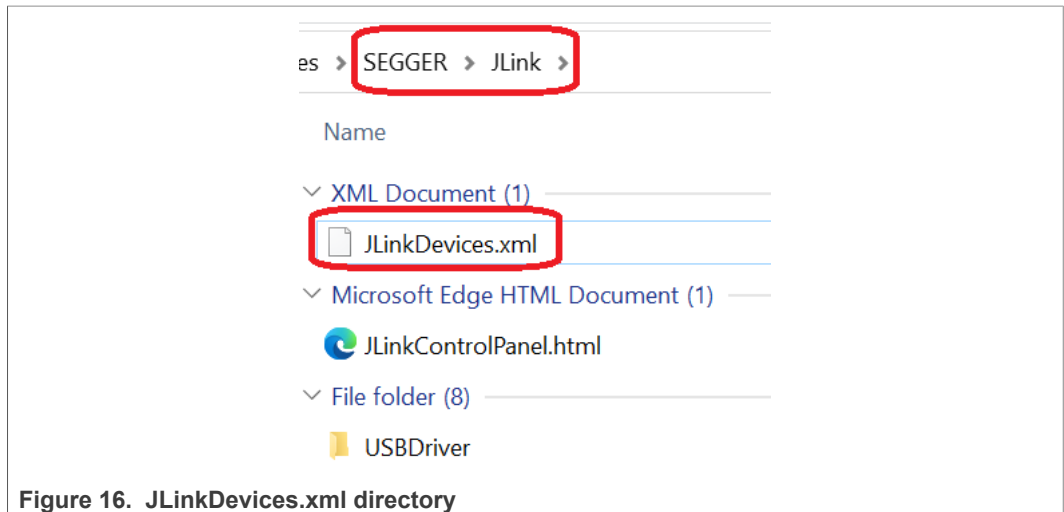

Figure 16. JLinkDevices.xml directory
b. Locate the *JLinkDevices.xml* within the J-Link installation directory. For example, the *JLinkDevices.xml* is placed at the directory shown in Figure 16. This file is used by the J-Link driver to identify all supported flash devices and to find their associated drivers.